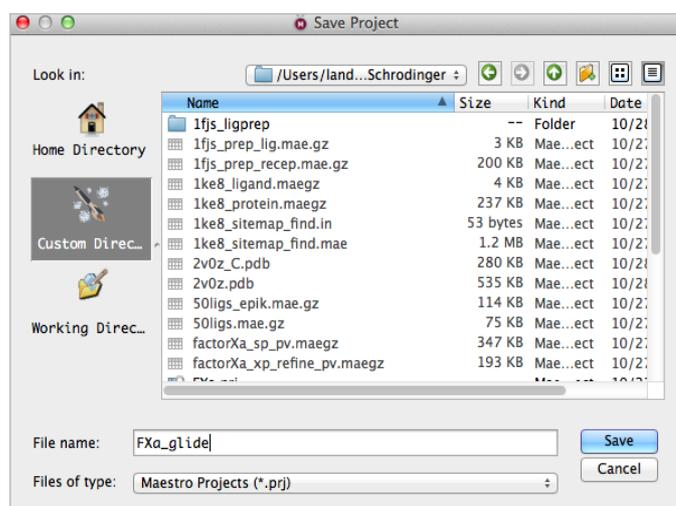

Figure 1. The Save Project dialog box.
1. **Create a Project.** Open Maestro by double clicking on the desktop icon. A scratch project is created (**Note:** scratch projects are not automatically saved!). Press the **Save As** icon in the **Project** toolbar (or navigate to **Project -> Save As** in the menu bar). In the dialog box that appears, type the name "FXa_glide" in the File Name box; press **Save (Figure1)**. The name of the project at the top of the Maestro window should now be "FXa_glide.prj."